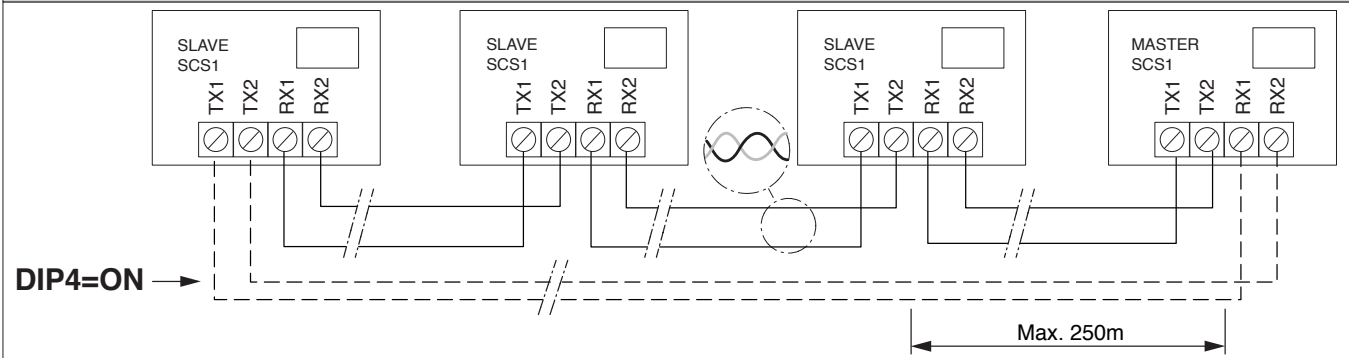

Fig.5
By appropriately memorising the transmitter keys on the various receivers, a centralised-type system can be obtained without having to connect the control panels via wire. For this purpose, use transmitters with 4 keys, and memorise all transmitters on all the system panels using key 2 and each of them on an individual panel using key 1; this way key 1 (START) will only control the operator where it has been memorised, whereas keys 2 (STOP), 3 (OPEN) and 4 (CLOSE) will act globally on all operators (fig. 5).